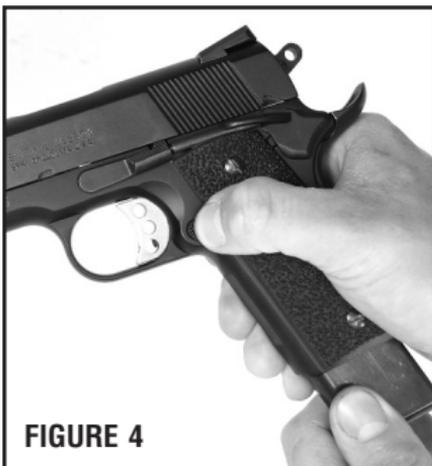
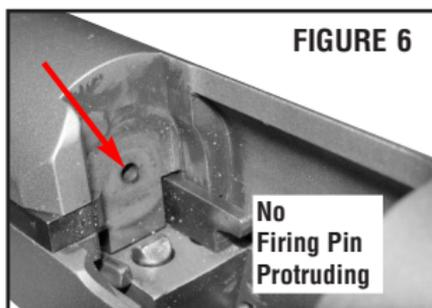

FIGURE 4
FIGURE 6
- Point the muzzle in a safe direction and depress the magazine release and remove the magazine (FIGURE 4). Depress the safety lever into the fully down “fire” position (FIGURE 6).
- Examine the breech face (FIGURES 6 & 7) to ensure that the firing pin is not protruding from the breech face.